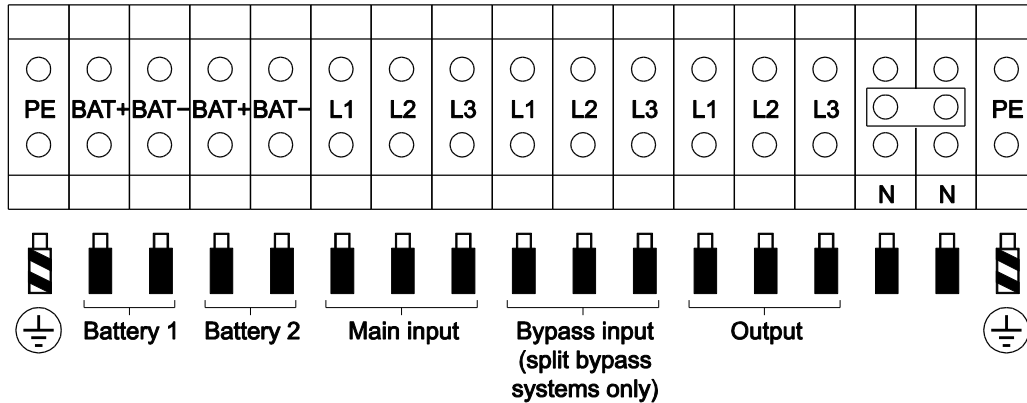

Figure 5 Cable connections for E420, E430, E440 and E460 units
- E420/E430/E440/E460: to **Main input** (Figure 5)
E420/E430/E440/E460: to **Bypass input** (Figure 5)